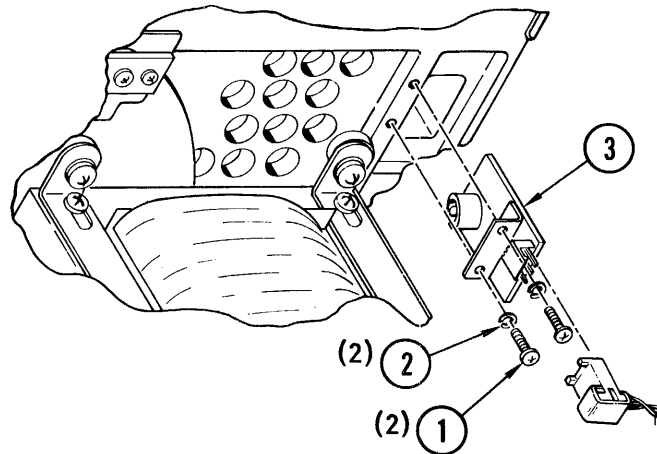

Figure 4-18. Tape-in-Path Sensor, Transmitter
4-32. **Removal and Replacement (Figure 4-18).** Place the transport in service access position (paragraph 4-3) and proceed as follows:
- b. Remove two screws (1, Figure 4-18) and lockwashers (2) and pull transmitter (3) carefully through hole from back of top plate.
- c. Position replacement sensor transmitter carefully in place through hole from back of top plate and secure with screws (1) and lockwashers (2).
- b. Remove attaching screw (1, Figure 4-18), lockwasher (2), and flatwasher (3) and remove tape-in-path sensor receiver (4). Save attaching parts for reassembly.
- c. Install replacement receiver using screw (1), lockwashers (2) and flatwasher (3).